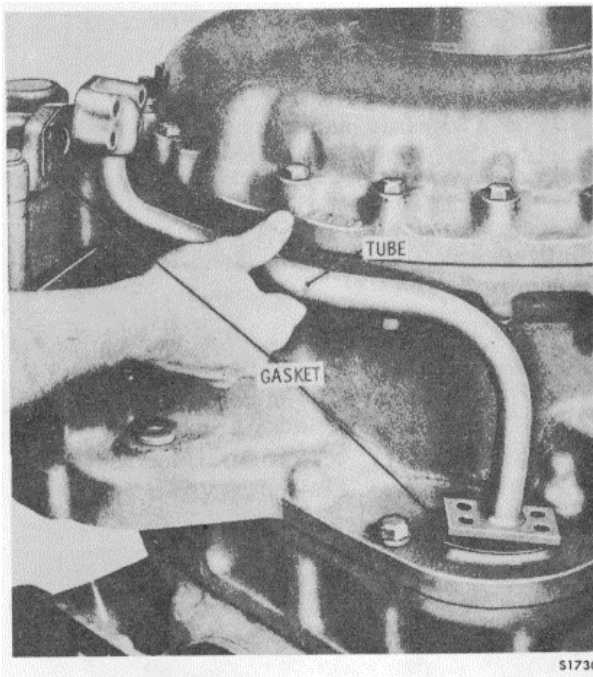

Figure 15-182. Installing Scavenge Oil Discharge Tube
2. Install two scavenge oil discharge tube gaskets (Figure 15-182). Install the tube and secure it with four 3/8-16 x 1 -3/4 inch bolts 1 (A, Foldout 5) and lockwashers 2 at the pump end of the tube, and four 3/8-16 x 1 inch bolts 6 and lockwashers 7 at the other end. Tighten the bolts to 26-32 lb ft (36-43 N.m).